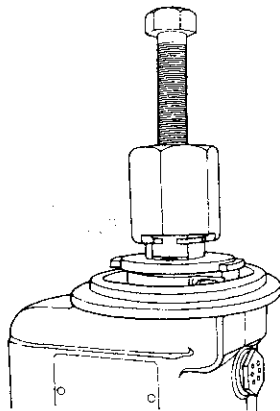

Figure 6.1A
- E. Engage Slick T-106 hub puller into grooves in the hub assembly. Tighten T-106 puller bolt and remove impulse coupling hub assembly. (See Figure 6.1A).